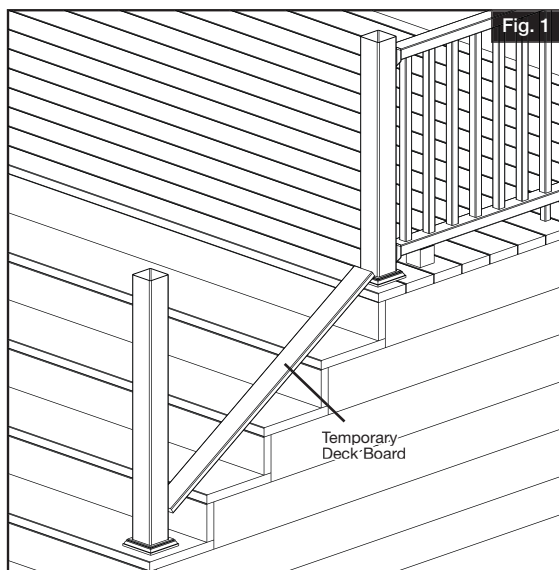

Fig. 1
- a. Measure distance between post from inside corners (Fig. 1) that will be using the pre-molded adapter and the next post. Subtract 3/4" from that distance and that will be the length you will need to cut your top and bottom rails (Fig. 1).
Temporarily secure a deck board (1 1/4") to your stair treads to determine the spacing between the nose of the stairs and your bottom rail (Fig. 1).